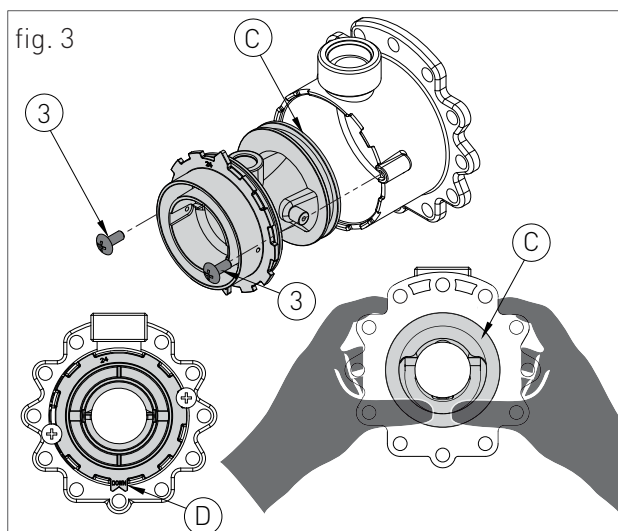

fig. 3
- › remove the two screws '3' (fig.3) and apply pressure on the rear side of venturi 'C' (fig.3);
- › replace the body venturi with the one suitable for the type of supply gas (cod. 30-00207 for methane / cod. 30-00201 for GPL) and make sure the tooth 'D' (fig.3) is adjusted downwards on the aluminium ring nut (see fig.3);